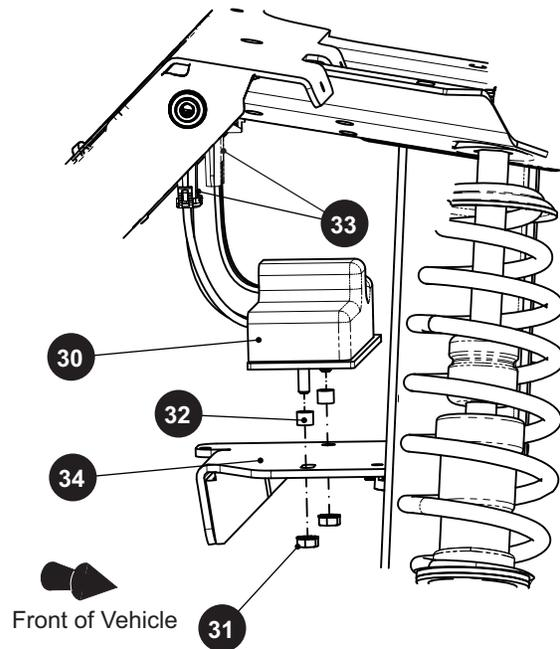

Fig. 13 DC to DC Converter
2. Disconnect the electrical connectors (33).
3. Remove the two nuts (31) that secure the DC to DC converter (30) to the frame (34).
4. Remove the DC to DC converter (30) from the vehicle retaining the spacers (32) for reuse during the installation (Ref. Fig. 13).